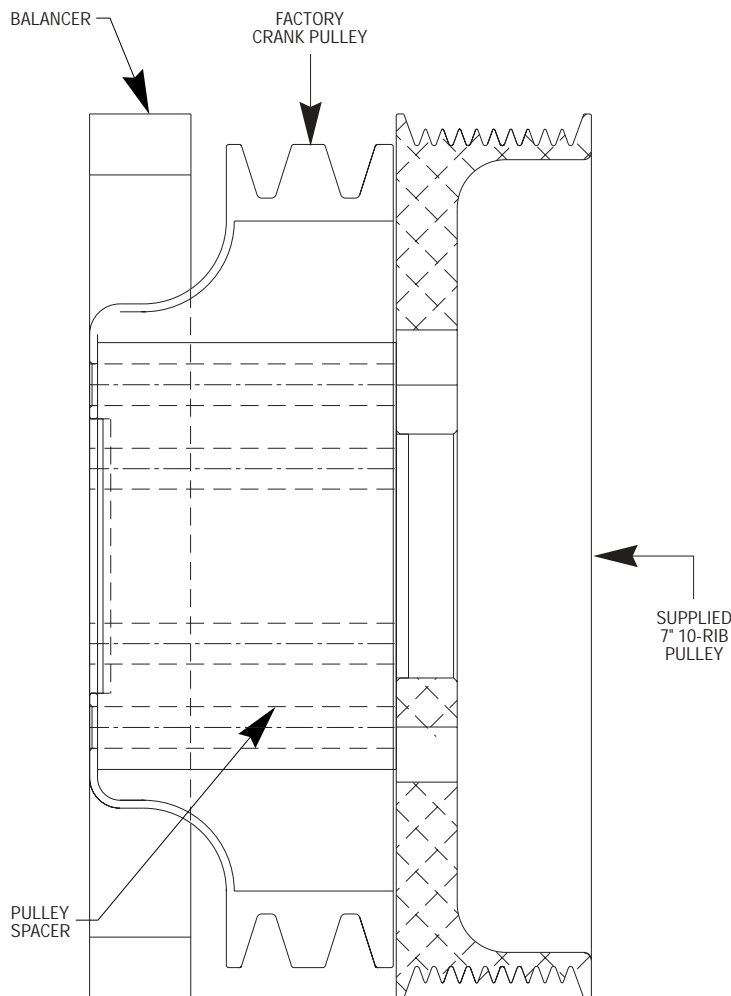

Fig. 6.1-a
- B. Assemble the crank pulley assembly as follows. Install six 5/16-18 x 3.75" bolt and washers through the provided 7" 10-rib crank pulley, through the supplied crank pulley spacer, and through the factory crank pulley. Make sure the spacer pilot is seated in the supplied 10-rib pulley. (See Fig. 6.1-a.)